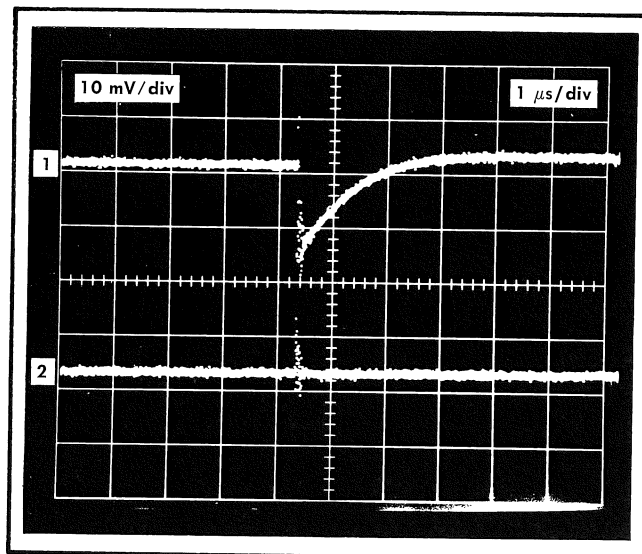

Fig. 5-7. Kickout at Trigger Out connector.
d. Adjust Trig Bal control R65 for a test oscilloscope display with a minimum amount of energy in the spikes (see Fig. 5-7, display 2).